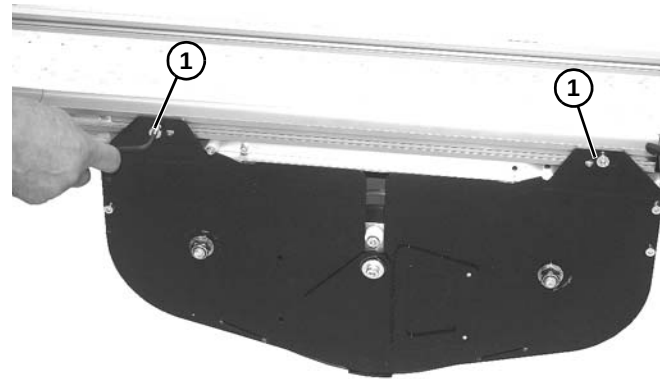

Figure 92
1. Remove two socket head screws (**Figure 92, item 1**) on each side securing assembly to frame.